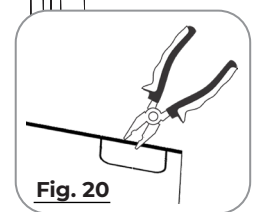

Fig. 20
2. **Optional:** If the PC Conduit Bracket or Surface Conduit Bracket is installed, use pliers to remove the appropriate knockout located on the top of the cover. (Fig. 20)